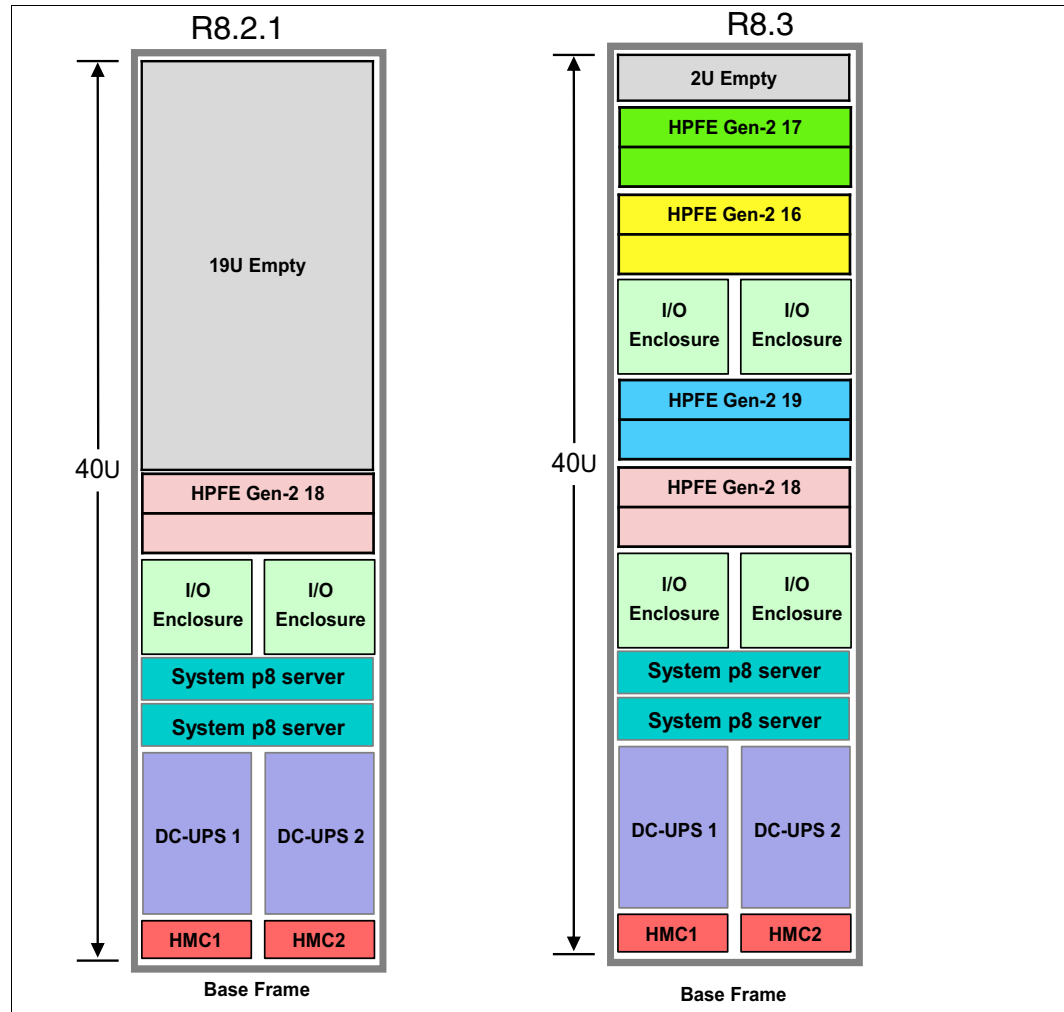

Figure 2-9 DS8884 MTM 533x model 984
- ▶ DS8884F can be upgraded with an additional three pairs of HPFE Gen2 enclosures. Capacity increases from 48 to 192 flash drives as shown in Figure 2-9.